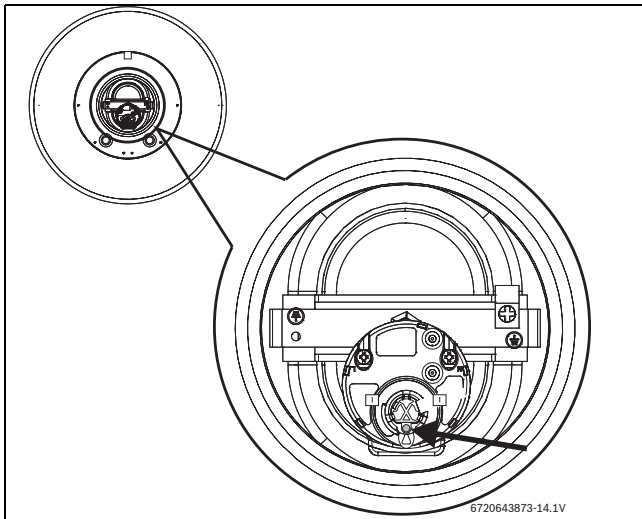

Fig. 14 Re-start button
- ▶ Press the button firmly (Fig. 14).